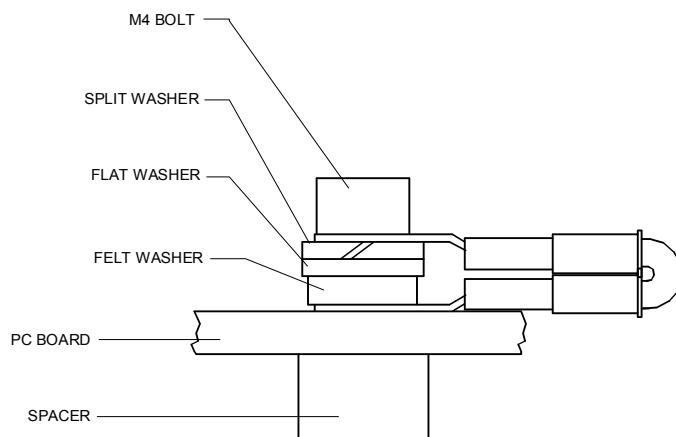

Figure 49. Ground Jumper
- b. Using a 3 mm Allen wrench and a 7mm wrench remove the nuts from the bolts that secure the Spare Boards together. You will be using these bolts to secure the spare set in your system. DO NOT change the position of any of the bolts. The bolt containing the felt washers and ground jumper must remain in the same position (see Figure 49).